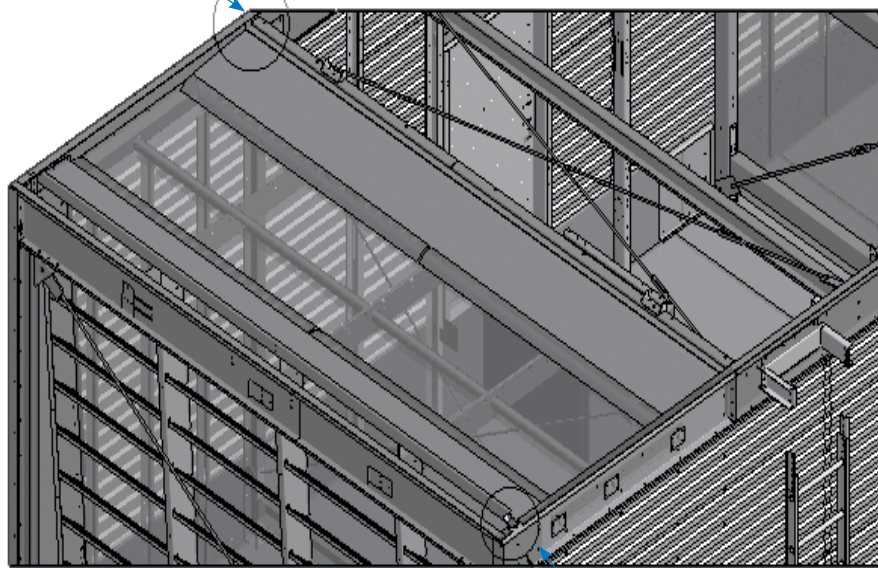
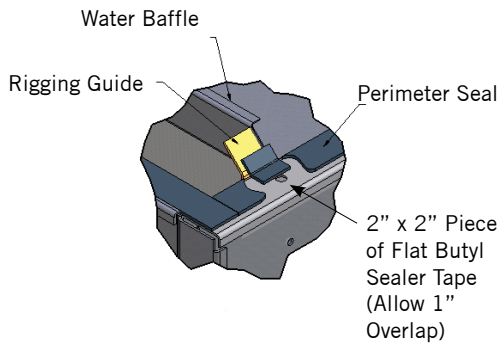
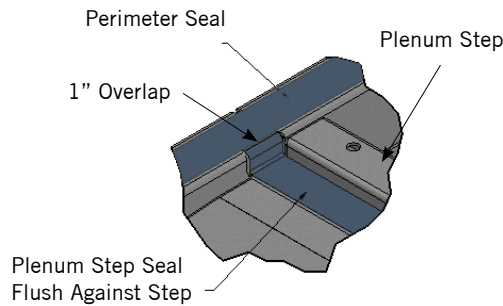
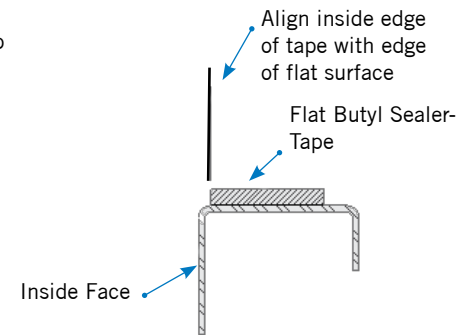

Figure 9. Upper and Lower Assembly for Dual Air Intake FXV3 and CXVT
Figure 10. Perimeter Seal Detail
Figure 11. Plenum Step Detail
Figure 12. Application of Butyl Sealer Tape
4. Apply flat butyl sealer tape (BAC part #554000) to critical seal areas shown in **Figure 9**. Apply a 2" x 2" piece of flat butyl sealer tape to the corner rigging guides as shown in **Figure 10**. Apply flat butyl sealer tape across the plenum step as shown in **Figure 11**.
5. Apply flat butyl sealer tape around the entire perimeter of the lower section. Align the tape on the perimeter flange as shown in **Figure 12**. See **Figures 10** and **11** for critical sealing areas. Allow 1" overlap tape at these locations.
Critical Seal (See Figure 11)
Critical Seal (See Figure 10)